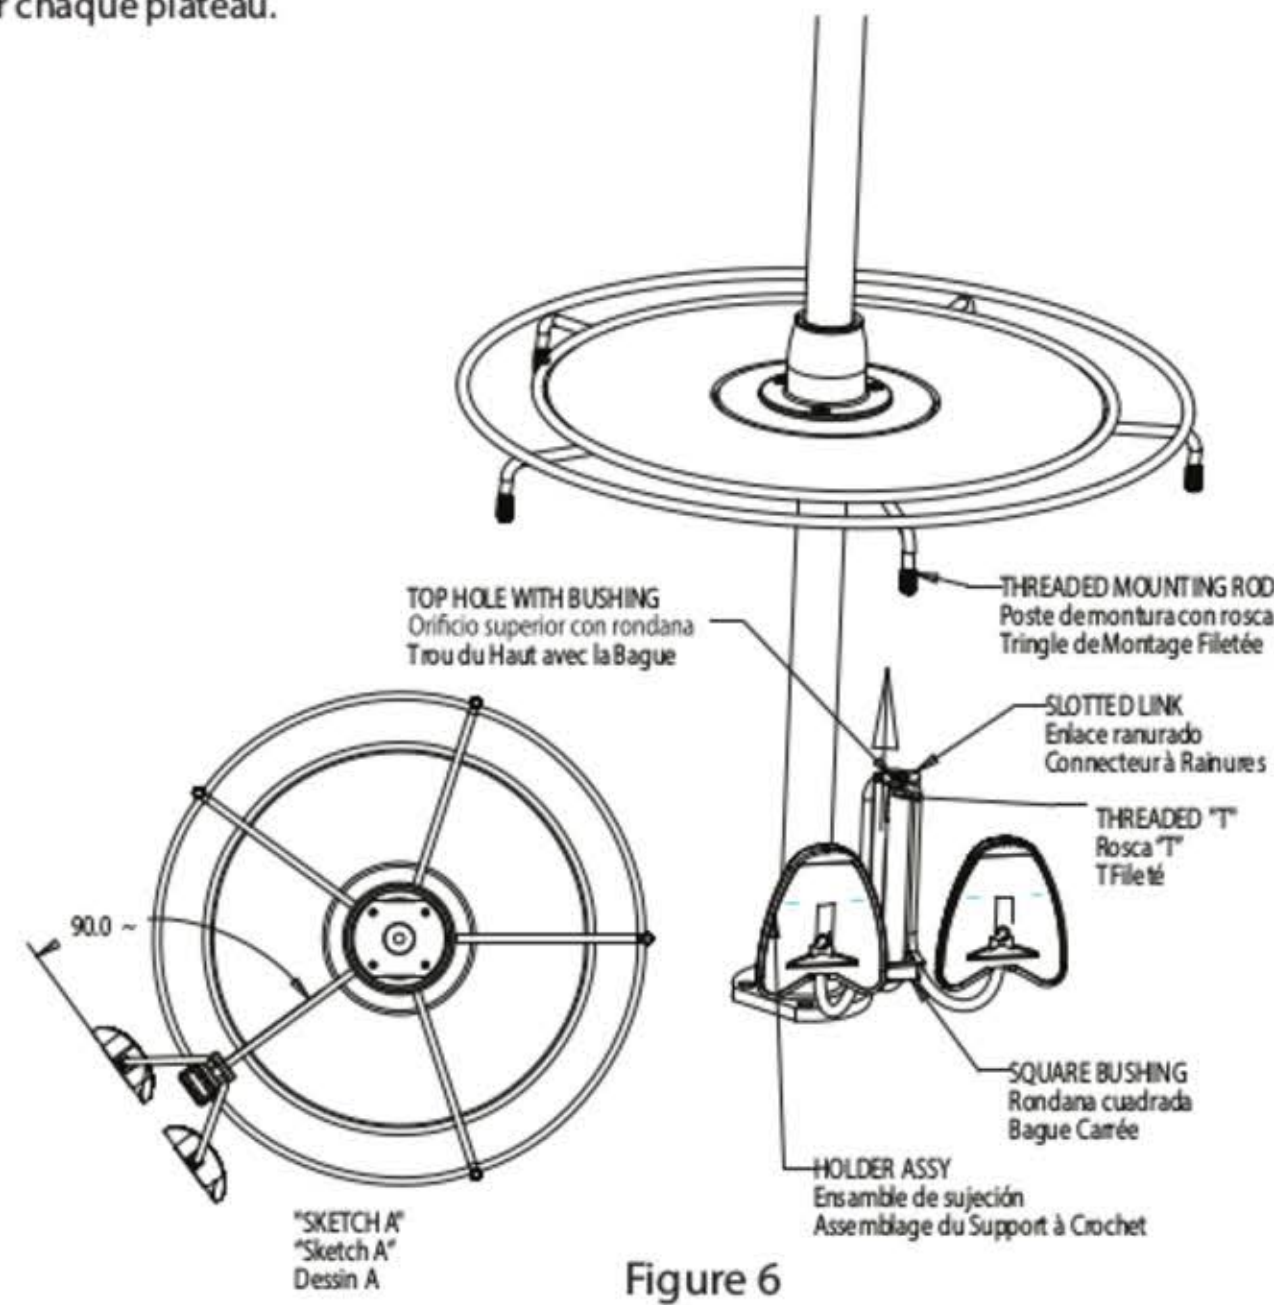

Figure 6
- B. Insert the threaded mounting rod thru the Top Hole with bushing and thread the Threaded "T" onto the Threaded Mounting Rod until no threads are visible. **NOTE: To make the assembly align correctly you may have to loosen the Threaded "T" until it is perpendicular to the threaded mounting rod "SEE SKETCH A" In figure 6. When this adjustment has been made, tighten both of the set screws in the Threaded "T" part.**